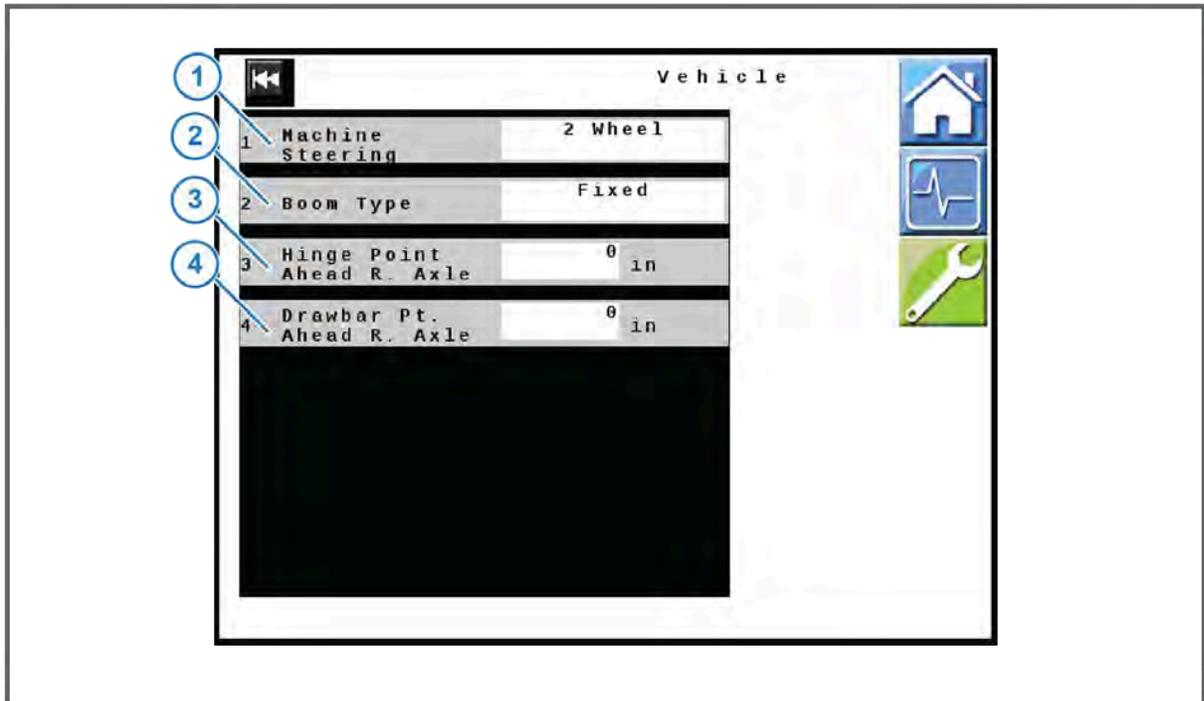

Figure 23:
5. Enter the correct Drawbar Pt. Ahead R. Axle measurement (Figure 23, Item 4) on the **Vehicle** screen as a (-) negative value. The remaining values will be entered on the **Implement** screen.